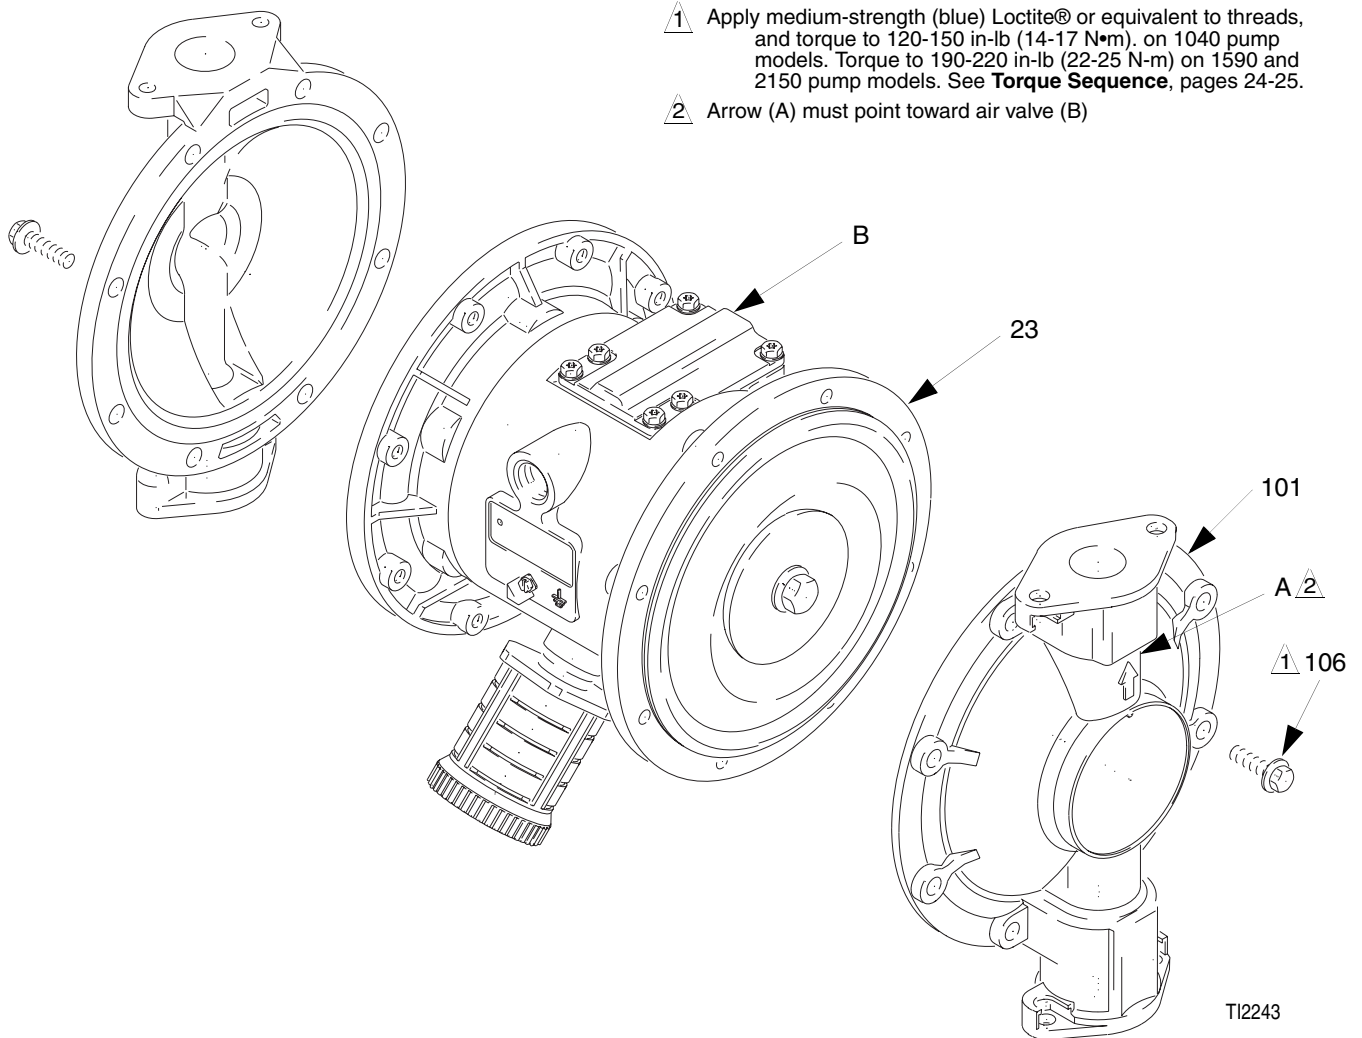

FIG. 10
3. Using a 10 mm or 13 mm socket wrench, remove the screws (106) holding the fluid covers (101) to the air covers (23). Pull the fluid covers (101) off the pump. See FIG. 10.
4. Loosen but do not remove the diaphragm shaft bolts (107), using a 15 mm socket wrench on both bolts.